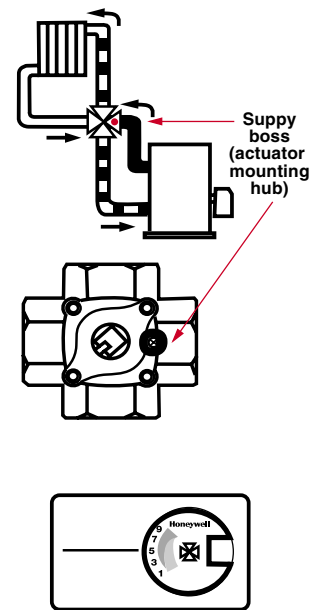

Fig. 3 M6063 actuator mounting on V5442N body.
All wiring must comply with applicable local codes, ordinances and regulations. Refer to Fig. 3 through 8 for typical wiring diagrams. M6063A are extra low voltage, class 2 devices.
3. Orient the M6063 actuator so that the single long mounting screw threads into the same boss used to identify the boiler supply. Use the brass spacer to avoid case deformation. See Fig. 3.
4. Select the correct side of the position scale, and place in the manual adjustment knob of the actuator. See Fig. 3. Snap on the clear plastic cover.